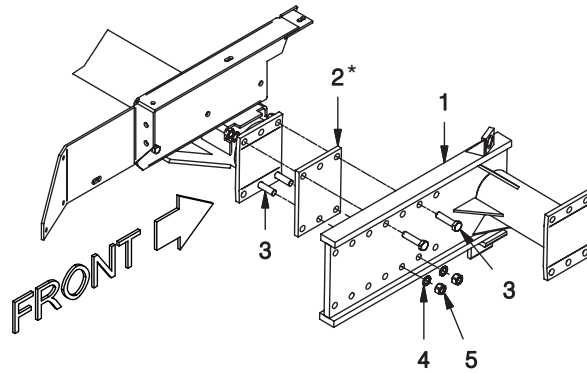
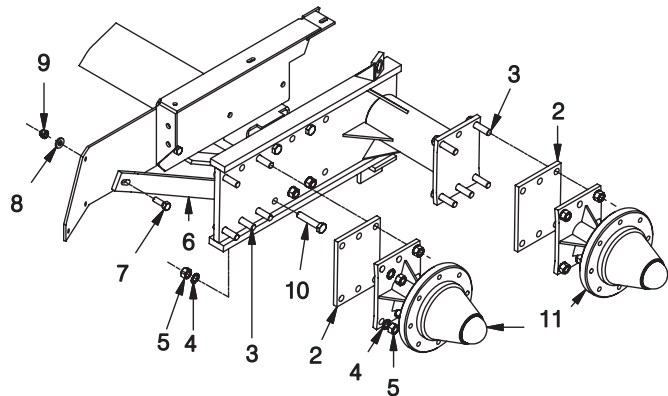

Figure 1 - Place Spacer and Tandem Wheel Plate
Figure 2 - Place Spacers, Brace and Hubs
A. Place (2) R13807958 Bolts through the axle and (2) through 901626 Tandem Plate as shown in Figure 1. Place (1) 901626 Tandem Plate and (1) 901675 Spacer as shown in Figure 1. Place the rest of the bolts, star washers and nuts on so the tandem plate and spacer are secure.
B. Place (2) F000007636 Spacer Plates on the tandem plate as shown in Figure 2. Place (2) F000008003 Hub and Spindle assemblies as shown in Figure 2. Place all bolts, star washers and nuts so the hub and spindle are secure. Place (1) F000007705 RH Brace on the axle as shown in Figure 1. Torque all nuts and bolts as per torque chart on page 1.